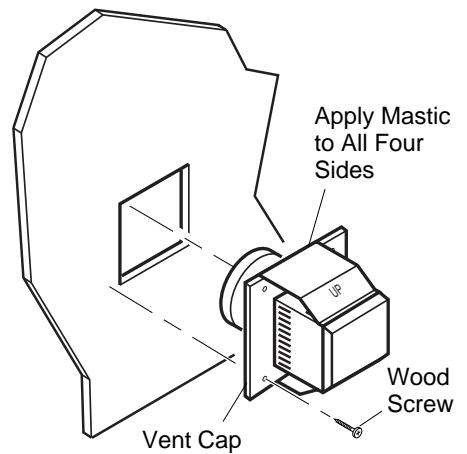

Figure 15 - Installing Horizontal Vent Cap
4. Apply a bead of non-hardening mastic around the outside edge of the vent cap. Position the vent cap in the center of the 7 1/2" or 10" hole on the exterior wall with the arrow on the vent cap pointing up. Insure proper clearance of 1" to combustibles is maintained. Attach the vent cap with four wood screws supplied (see Figure 15). **Note:** Replace the wood screws with appropriate fasteners for stucco, brick, concrete, or other types of siding.